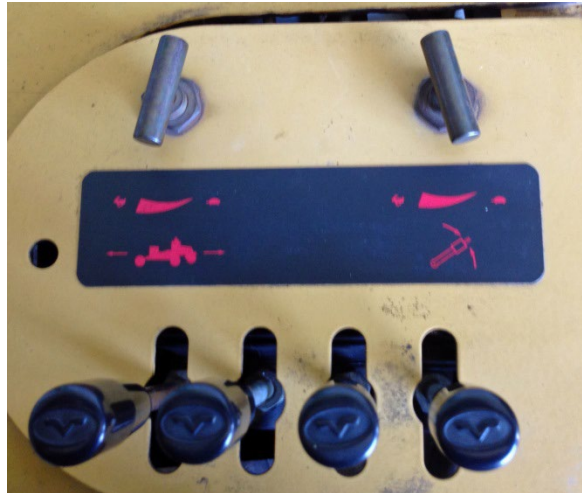

Figure 3.3
- c. While moving the boom left and right, adjust the Left/Right travel to as slow as possible. (Figure 3.3)